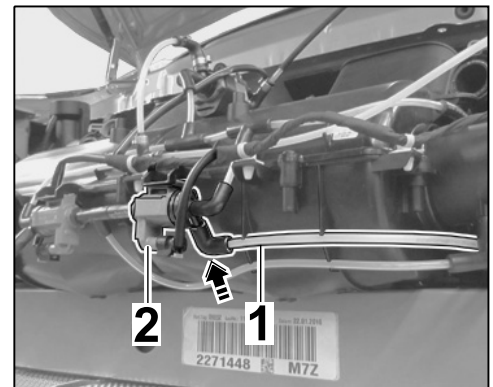

Figure 57
10.3.7 Connect the new vacuum line ⇒ *Figure 57-1-* to the new vacuum valve ⇒ *Figure 57-2-* (⇒ *Figure 57 -arrow-*).